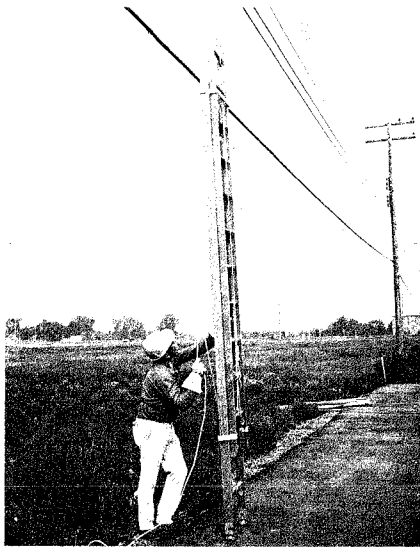

Fig. 24 — Ladder in Vertical Position
7.08 Continue pulling the free end of the handline until the ladder is in a vertical position under the strand (Fig. 24).